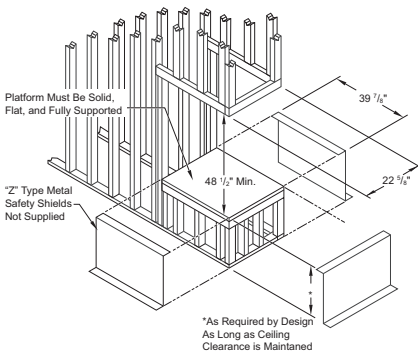
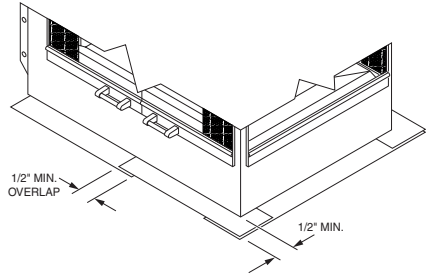
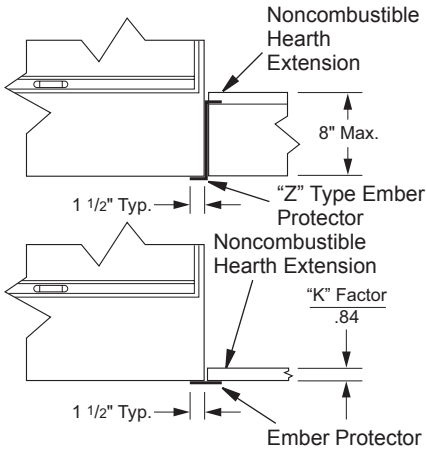

Figure 6 - Framing Firebox with "Z" Type Ember Protectors
Figure 7 - Ember Protectors
Figure 10 - Raised Hearth Extension
5. Before securing fireplace to prepared framing, ember protector (provided) must be placed between hearth extension (not supplied) and under bottom front edge of fireplace to protect against glowing embers (see Figure 7). If fireplace is to be installed on a raised platform, a Z-type ember protector (not supplied) must be fabricated to fit your required platform height (see Figure 6). The ember protector should be made of galvanized sheet metal (28 gauge minimum) to prevent corrosion.
If hearth extension is to be raised, a "Z" type ember protector must be used (see Figure 6 and Figure 10, page 6)